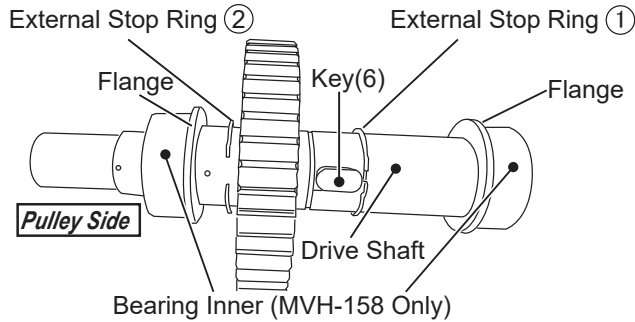

Fig.8-38
- a. Assemble the key (6) to the drive shaft (6), then assemble the external stop ring 1(5) to the groove of opposite side of pulley. (Fig.8-38)